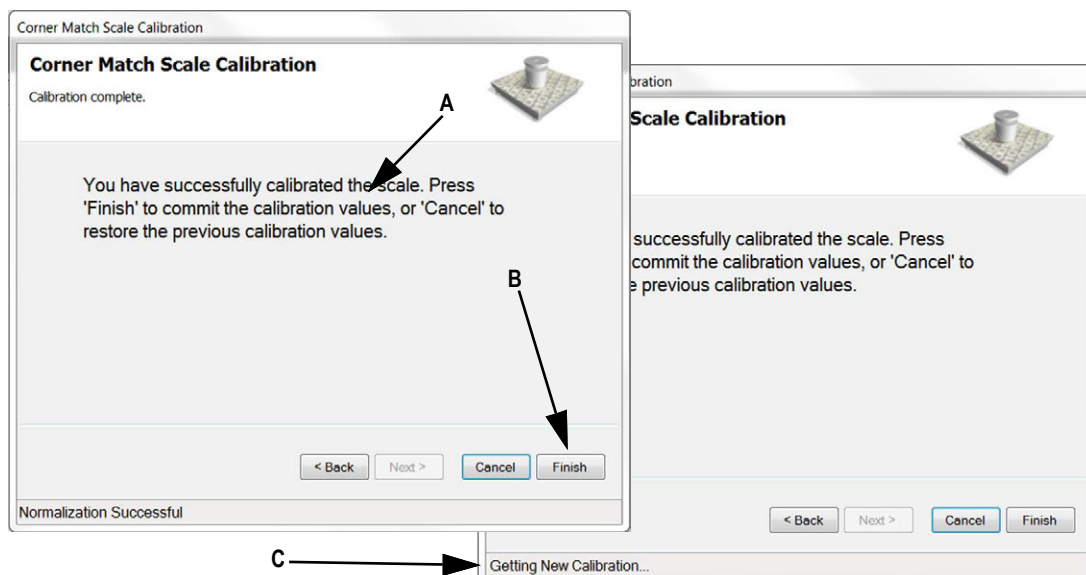

Figure 5-8. Finish Calibration
14. A message that you have successfully calibrated the scale will appear (Figure 5-8 A) then press **Finish** (Figure 5-8 B). A message appears in the bottom of the frame *Getting New Calibration* (Figure 5-8 C). When done the pop up box will disappear and calibration is complete.